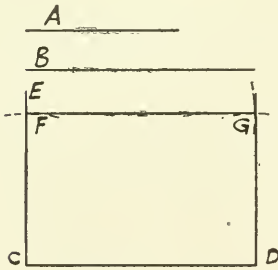

Fig. 610
17. *To draw an oblong or rectangle with given sides, as A and B* (Fig. 610).—Make CD equal to B. At C erect a perpendicular CE. From C with radius equal to A describe an arc cutting CE in F. From D with radius equal to A, and from